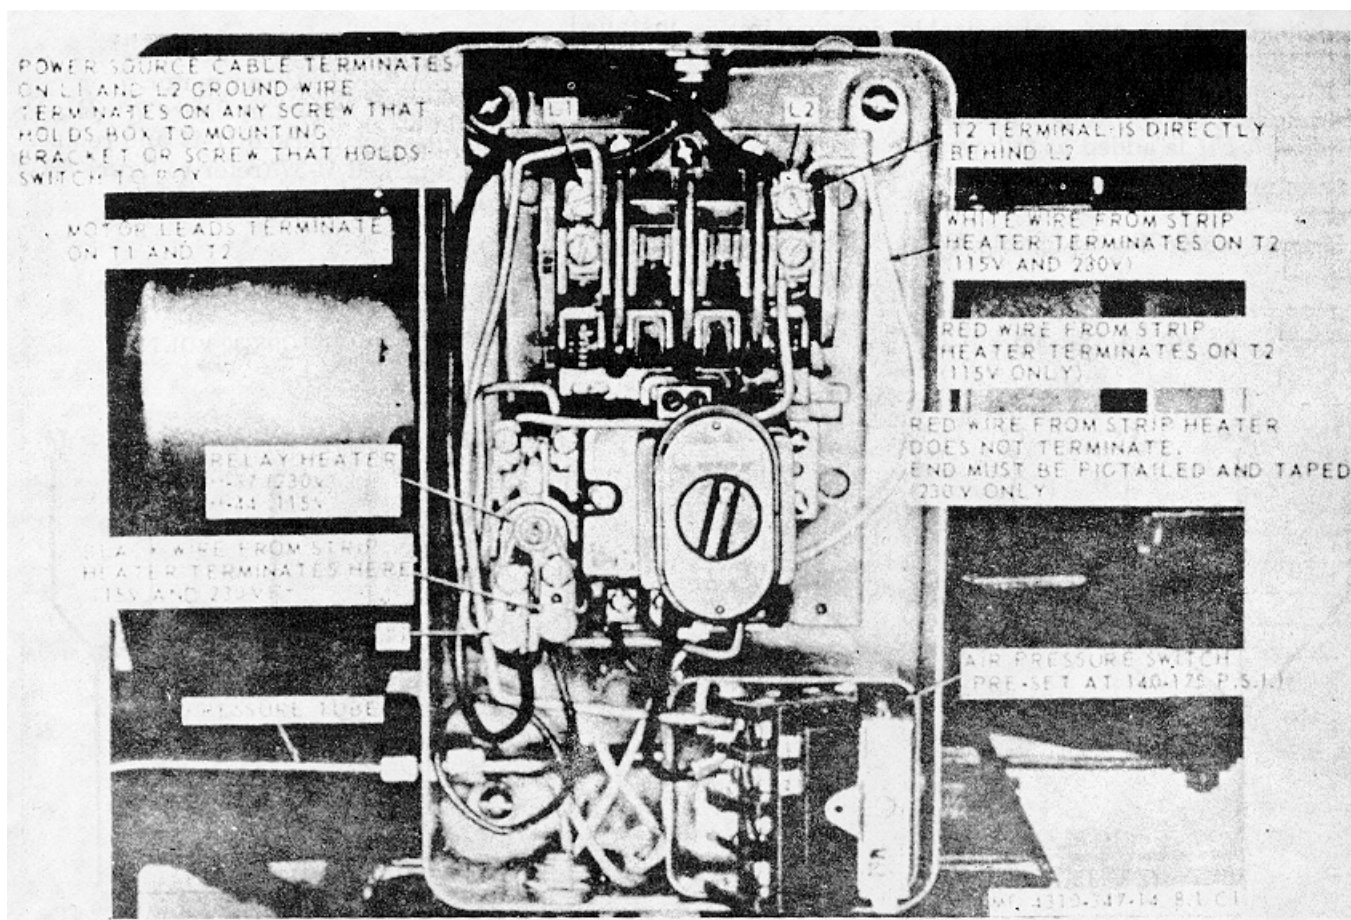

Figure 8.1. Magnetic starter (shown with cover removed) (Serial nos. 14433 through 14449).
- c. Install the relay heater (refer to figure 8.1) marked H-44. The relay heater (H-44) is factory installed.
- c. Remove relay heater marked H-44 and replace with relay heater marked H-37 (refer to figure 8.1).